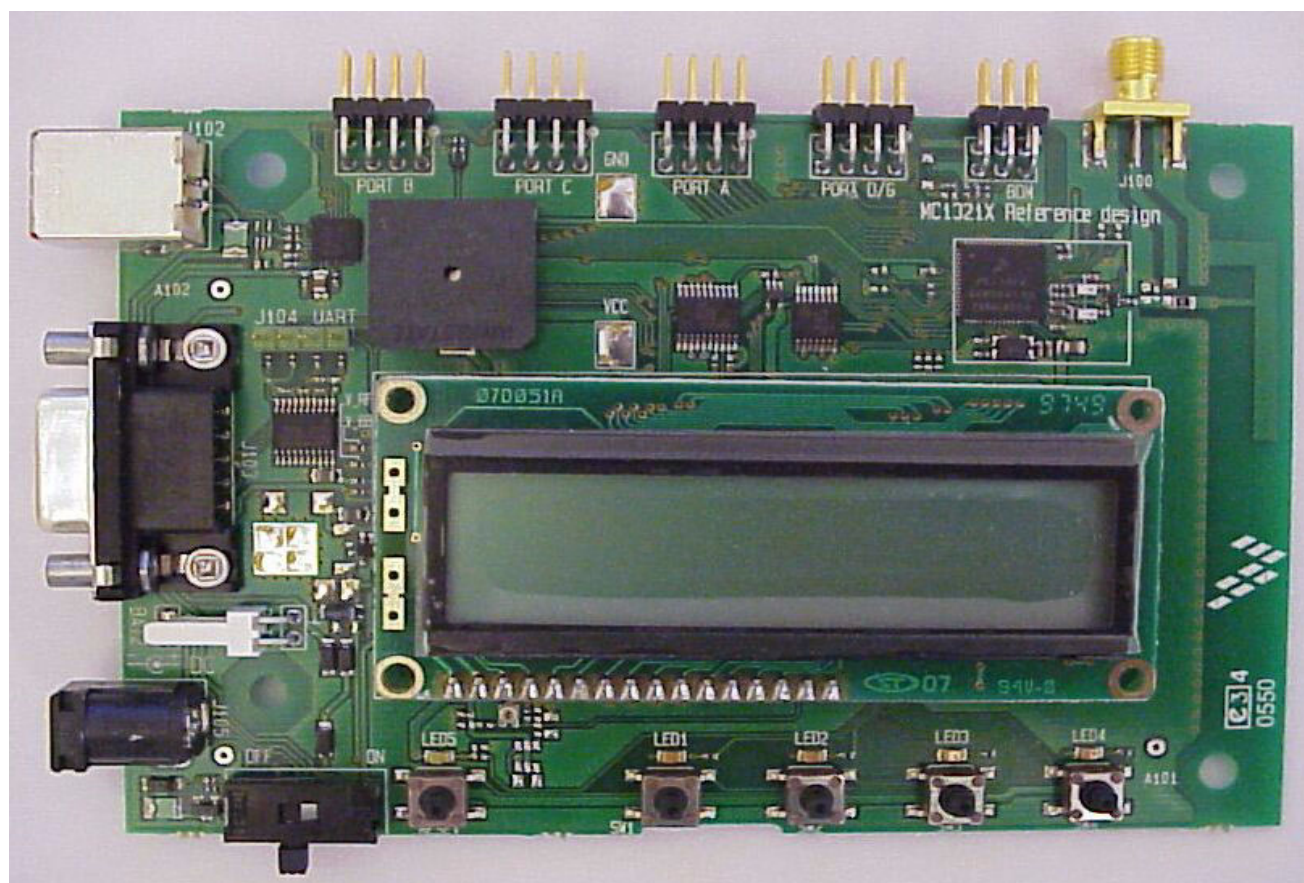

Figure 2-1. 13213-NCB
1. 13213-NCB Network Coordinator Board as shown in Figure 2-1.